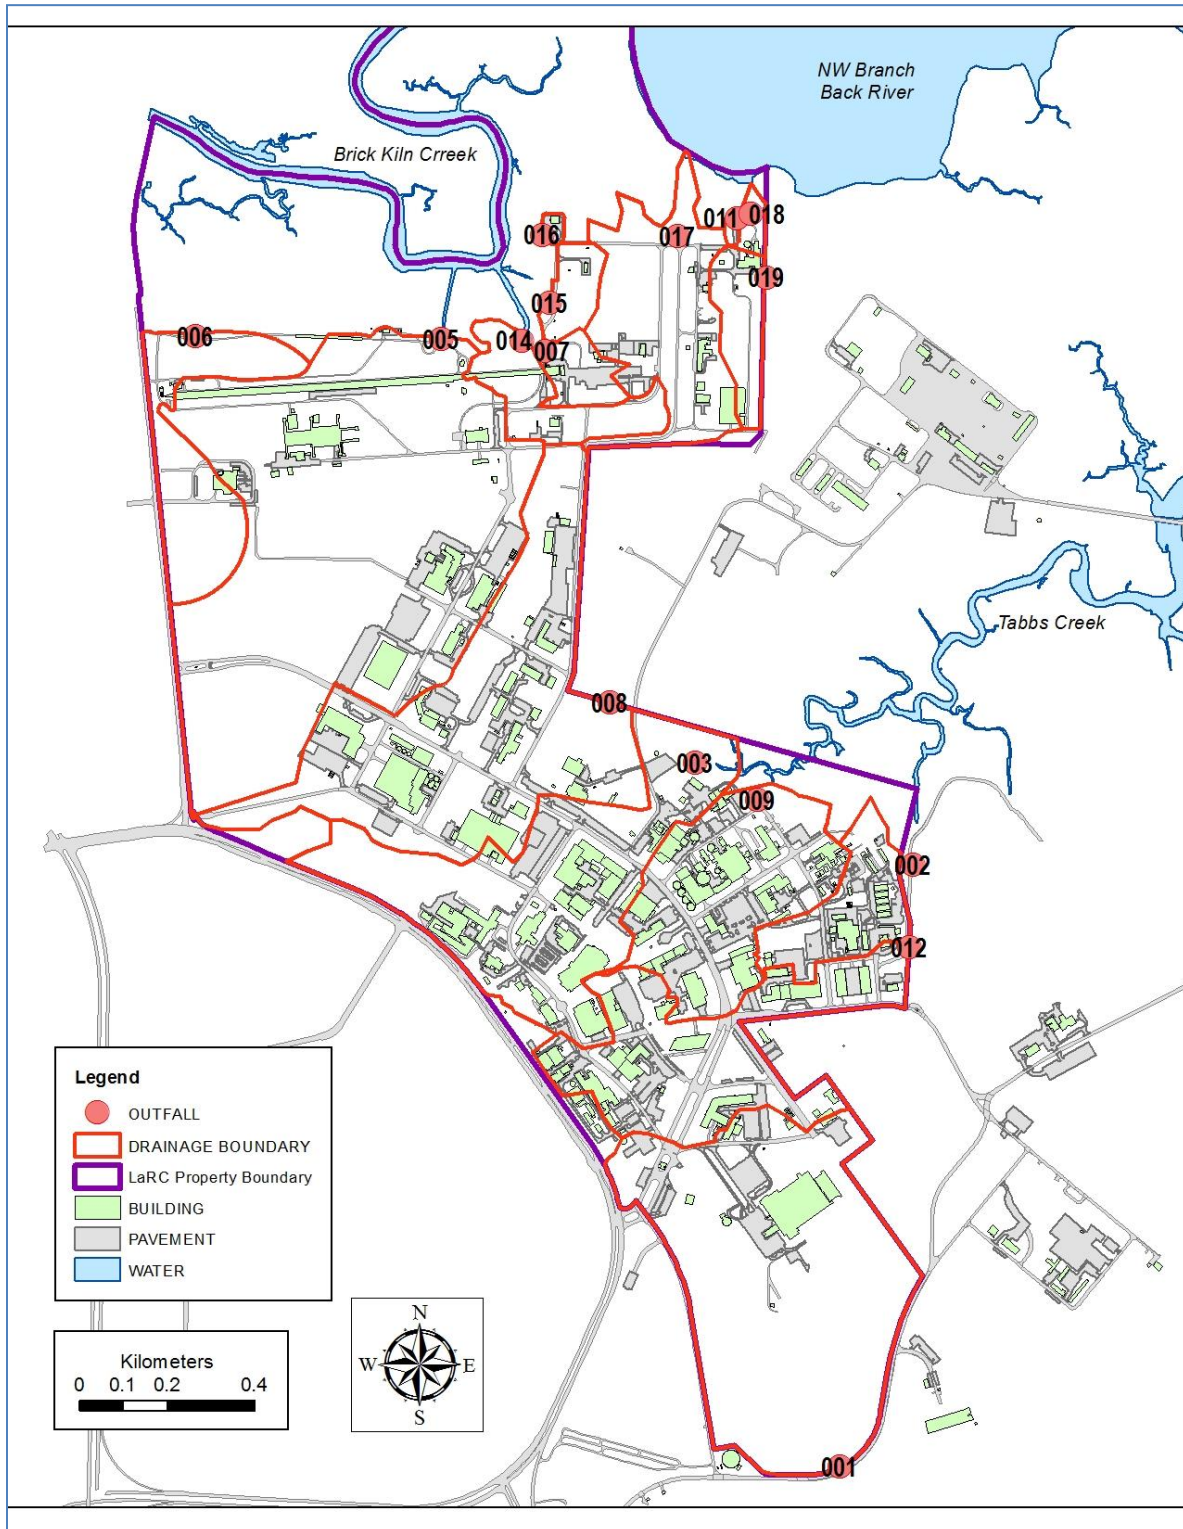

FIGURE 1 - LaRC OUTFALL AND OUTFALL DRAINAGE BASIN MAP
- (2) Annual Report for PY 1 covering the period of July 1, 2013 – June 30, 2014.
- (3) To fulfill its mission, LaRC employs approximately 3,300 individuals including civil servants, researchers, technicians, maintenance staff, and on-site contractors. The Center is organized into groups and divisions based on current research and development areas. There have been no major modifications to any operator roles and responsibilities. In the current MS4 Program Plan the Standard Practice and Environmental Engineering Branch (SPEEB) is responsible for ensuring implementation of the MS4 Program Plan.
- (4) A total of 15 outfalls exist (shown in Figure 1). Five new MS4 outfalls have been added during the PY.
- (5) The signed Certification Statement can be found on the last page of this Annual Report prior to the attachments.